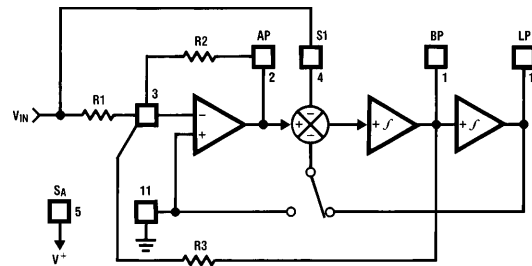

FIGURE 12. MODE 4
**MODE 4: Allpass, Bandpass, Lowpass Outputs** (See Figure 12)